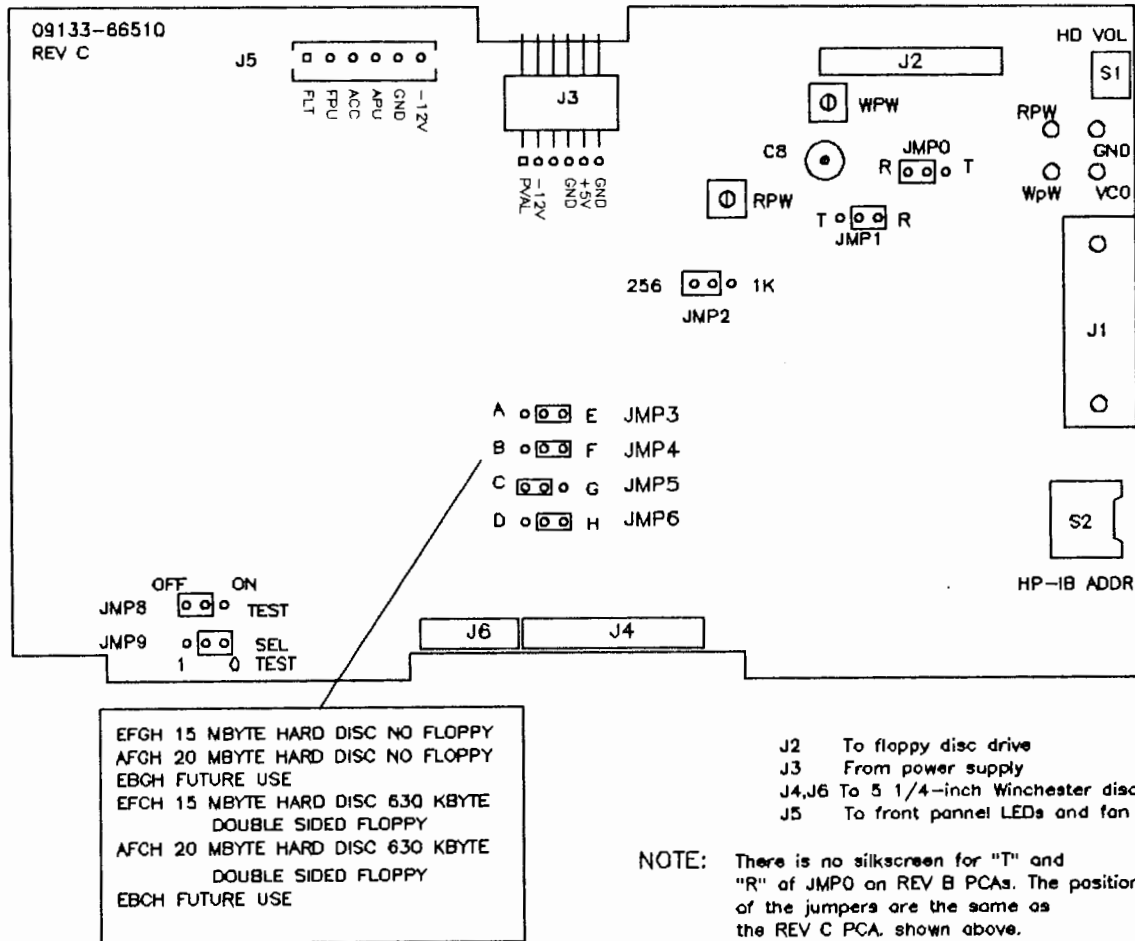

Figure 4-1
Figure 4-1 shows the test-points, adjustments, jumpers, and key components on the Drive Control PCA.
2. Select the RAM test using TABLE 1 to set the switches correctly. (Refer to Figure 4-1 for jumper locations.)
Use Figure 4-1 for locating test points.